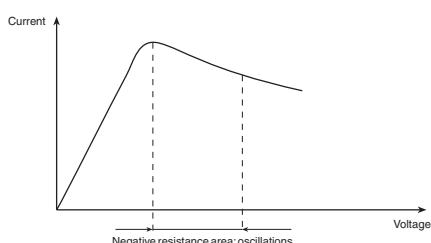

Figure 3-1
The Gunn diode's «Current-Voltage» response curve has a part with a negative dynamic range (see Fig. 3-1)
- Plot the «Current-Voltage» characteristic of the Gunn effect diode and compare it to that in figure 3-1.